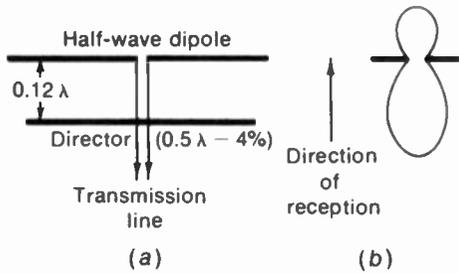

FIGURE 25-14 DIPOLE ANTENNA WITH PARASITIC DIRECTOR IN FRONT.
**Dipole with director.** Referring to the parasitic director element in Fig. 25-14, it is placed  $0.12\lambda$  in front of the dipole and is about 4 percent shorter than the driven element. The gain and directivity of the dipole with director drop off